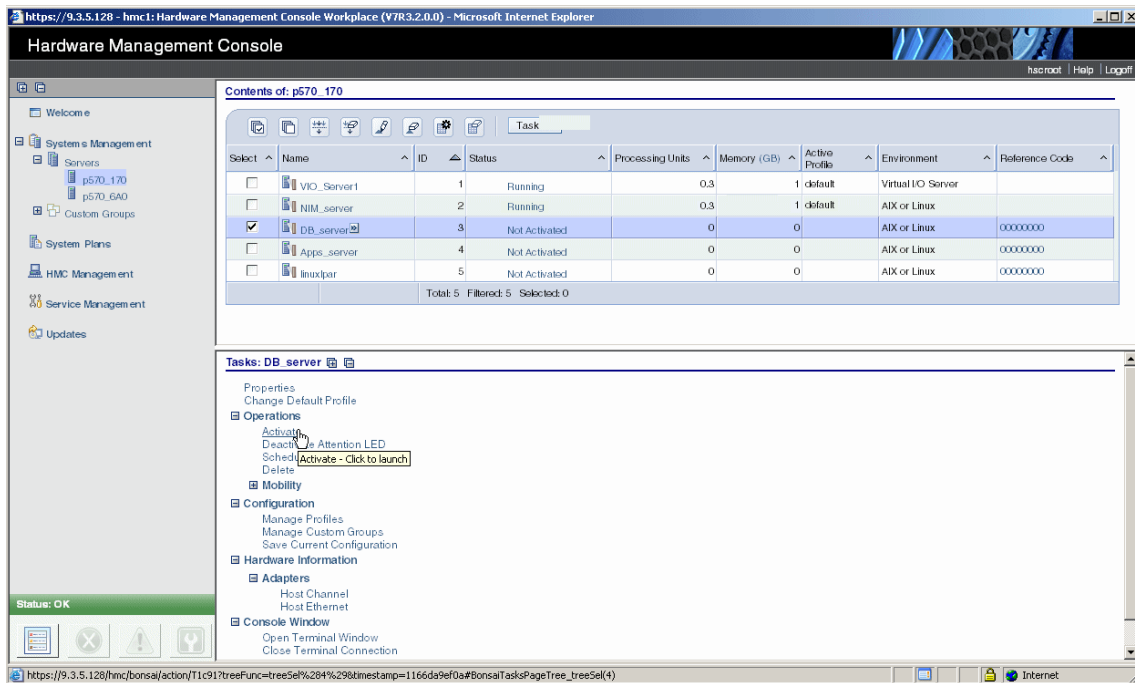

Figure 13-16 Activating the DB_server partition
2. Initiate the install process by activating the DB_server client partition in SMS mode, as shown in Figure 13-16.